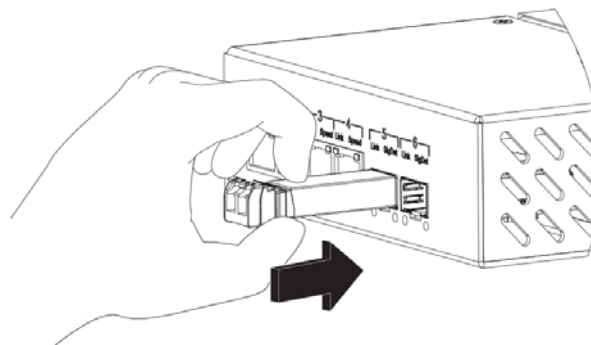

Figure 13. Inserting a Module
4. With the gold finger connector on the bottom and the label on the top, line up the SFP module with the empty cage and slide it in making sure that it is completely inserted and seated in the cage (see figure 13).